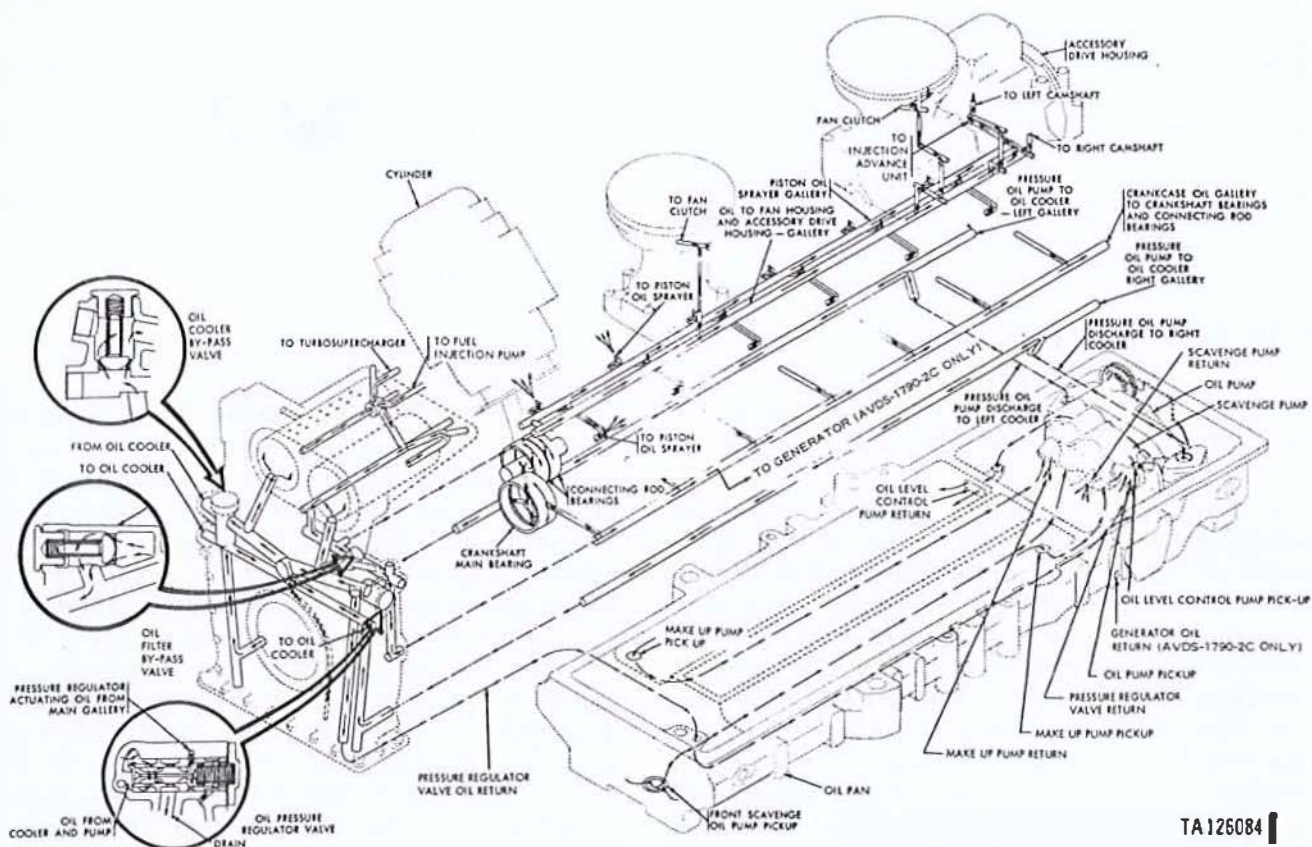

Figure 1-9. Engine lubrication system.
a. Crankshaft assembly (42) is a nitrided steel forging with seven main bearing journals and six crankpins. Each crankpin accommodates two opposing connecting rod assemblies (46). Flanges are provided on the crankshaft for mounting the flywheel (13) on the rear end and a torsional vibration damper (45) on the front end.
b. All crankpin bearing journals are hollow to reduce weight. Holes are drilled diagonally through each main bearing journal and extend through the crank cheek and crankpin to provide a direct passage for oil under pressure to the connecting rod and crankshaft main bearings as shown in figure 1-9.
(figs. 1-9 and 1-10)